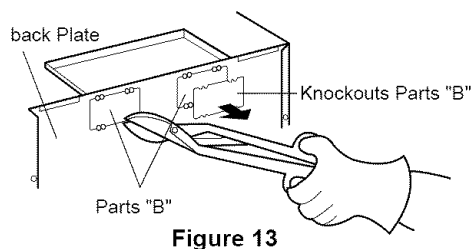

Figure 13
3. Use side cutters or tin snips to cut and remove knockouts parts "B" from Back plate. Discard knockouts. Be careful not to distort the plate. See Figure 13.